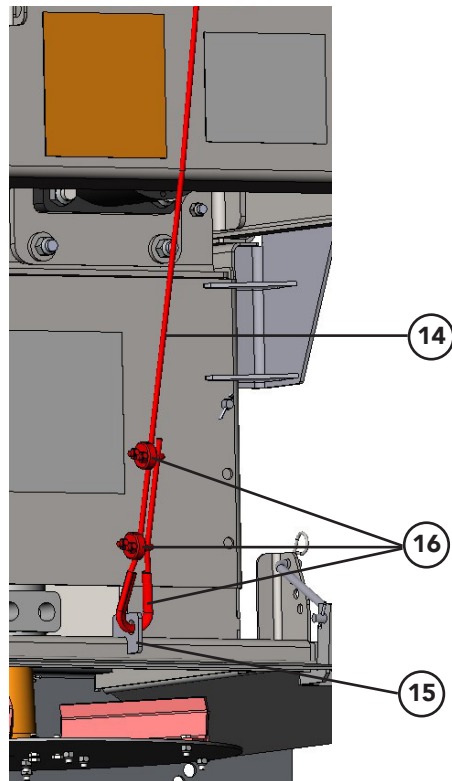

Figure 2 – Pulley Installation
5. Figure 2 - Attach Pully (11) to weldment (12) using quick Link (13).
6. Run Cable (14) as shown.
7. Secure cable to Spinner Weldment (15) using Clamp Assembly (16).